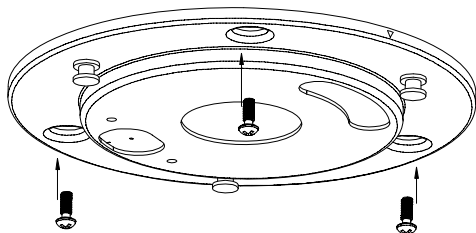

Figure 1
STEP 1: Secure Dome's Adapter in the desired ceiling position with the 3 fixing screws, as shown in Figure 1.